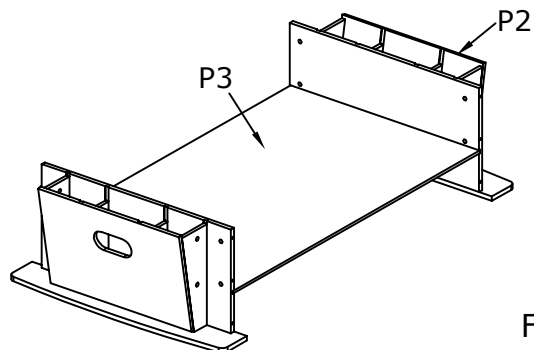

FIGURE 1
1. Insert playing field **P3** into the groove on the end panels **P2** with graphics facing down. See **Figure 1**.